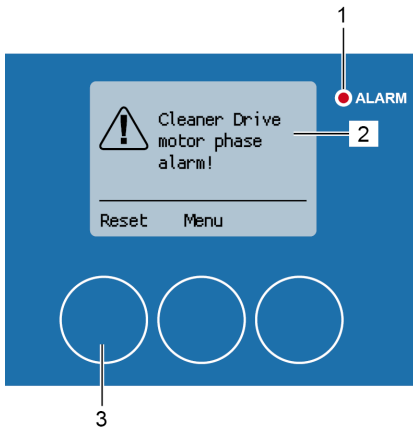

Fig. 193: Motor phase alarm
The alarm message “Cleaner Drive motor phase alarm!” (Fig. 193/2) is displayed during the cleaning process if there is a problem with the connection of stepper motor of the cleaning rail. The red alarm LED (Fig. 193/1) lights up.
2. Reset the alarm message with [Reset] (Fig. 193/3).